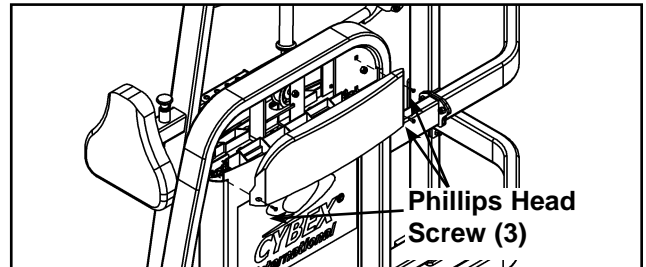

Figure 18
- C. Install the three Phillips head screws securing the top (back) shroud. See Figure 18.